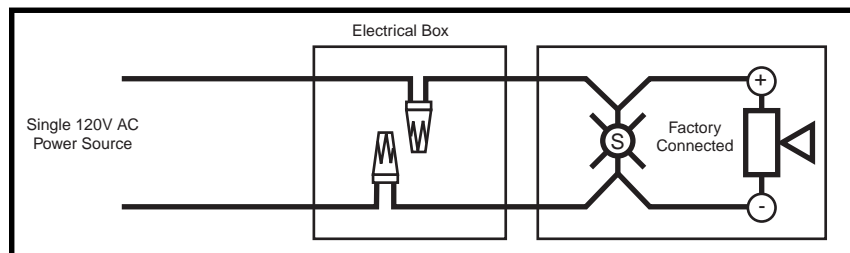

Figure 2. Wiring Connections
2. Connect the wire leads as shown in Figure 2.